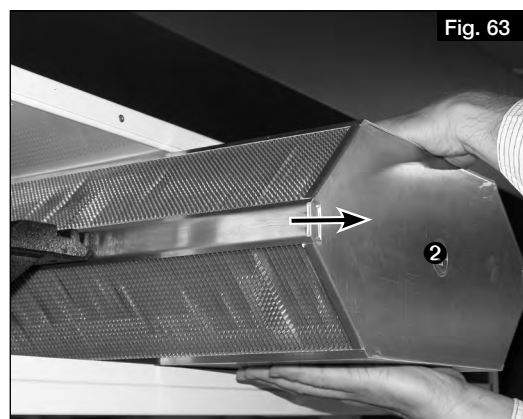

Fig. 63
3. Carefully remove the heat exchanger **2** from the unit (see Fig. 63). Ensure that the fins are not damaged!